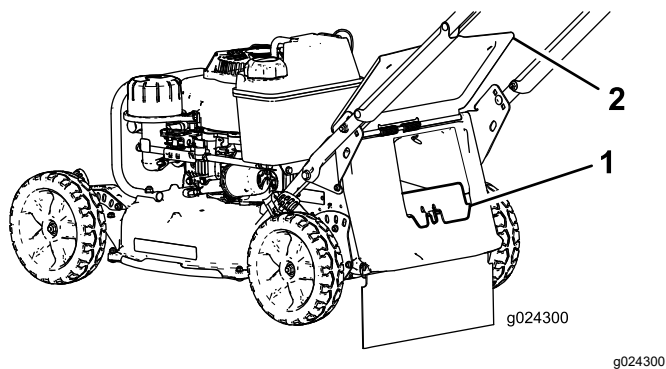

Figure 19
the rear-discharge chute until the latch locks into place (Figure 19).
3. Remove the rear-discharge plug by pushing in the latch with your thumb and pulling the plug out from the machine (Figure 19).